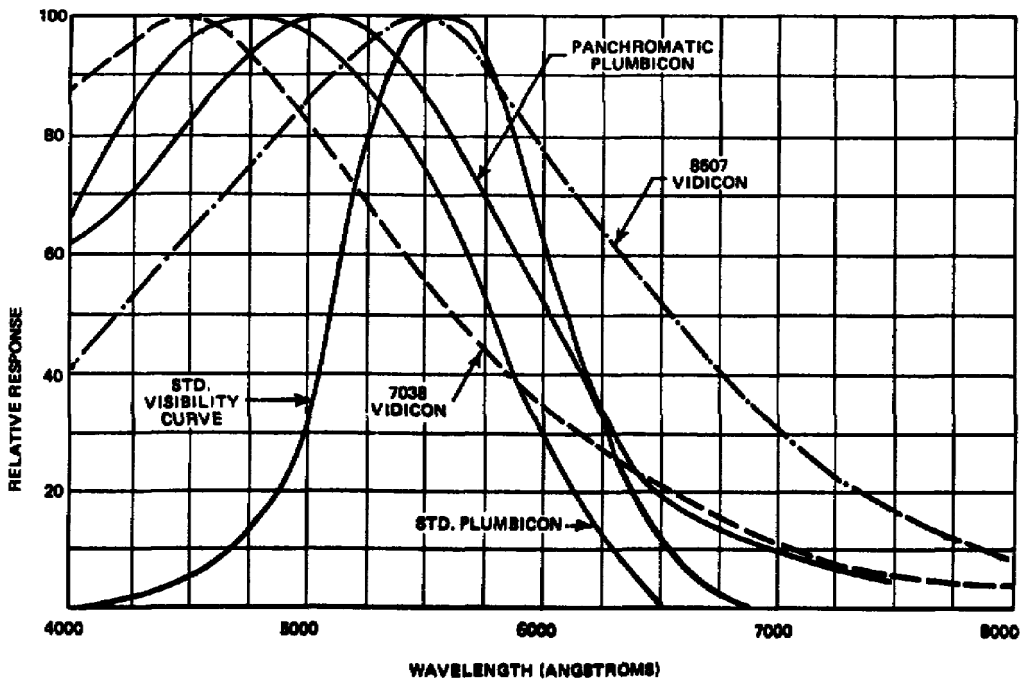

Figure 2-3. Spectral response of typical lead-oxide and vidicon pickup tubes compared to the human eye
b. Figure 2-3 shows the relative spectral sensitivity of the standard lead-oxide tube, the extended red lead oxide tube and two types of vidicon as well as the spectral characteristics of the average human eye. This also shows that the spectral response of the eye is not uniform.